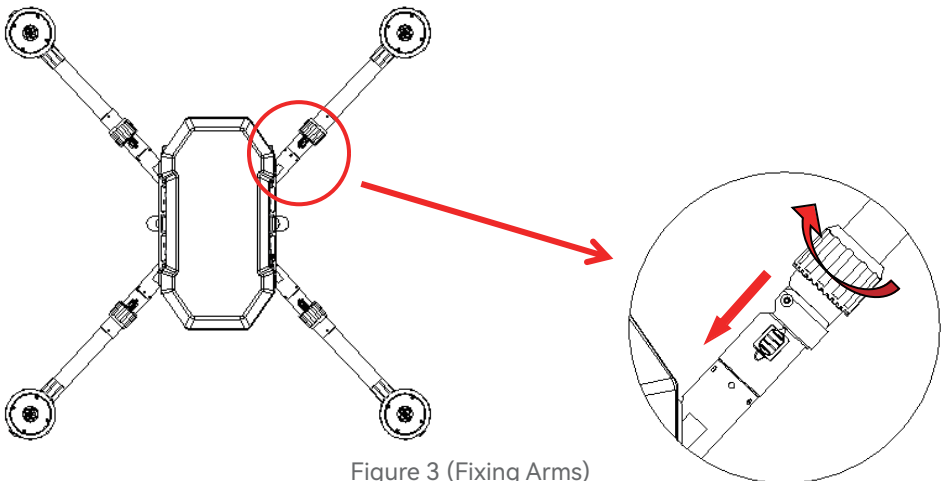

Figure 3 (Fixing Arms)
3. Spread the arms to 180 degrees and turn the folding rings as per the instruction and secure the arms (Figure 3) (Make sure the arms are lined up with the frame, otherwise, they might get stuck and cause damage to the thread. )